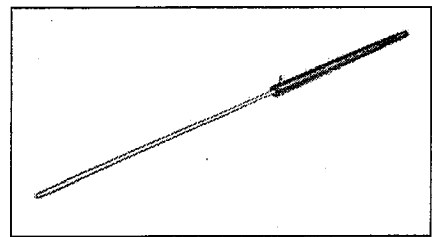

Fig. 6
3. Pull out the ram as long as possible. (Fig. 6)